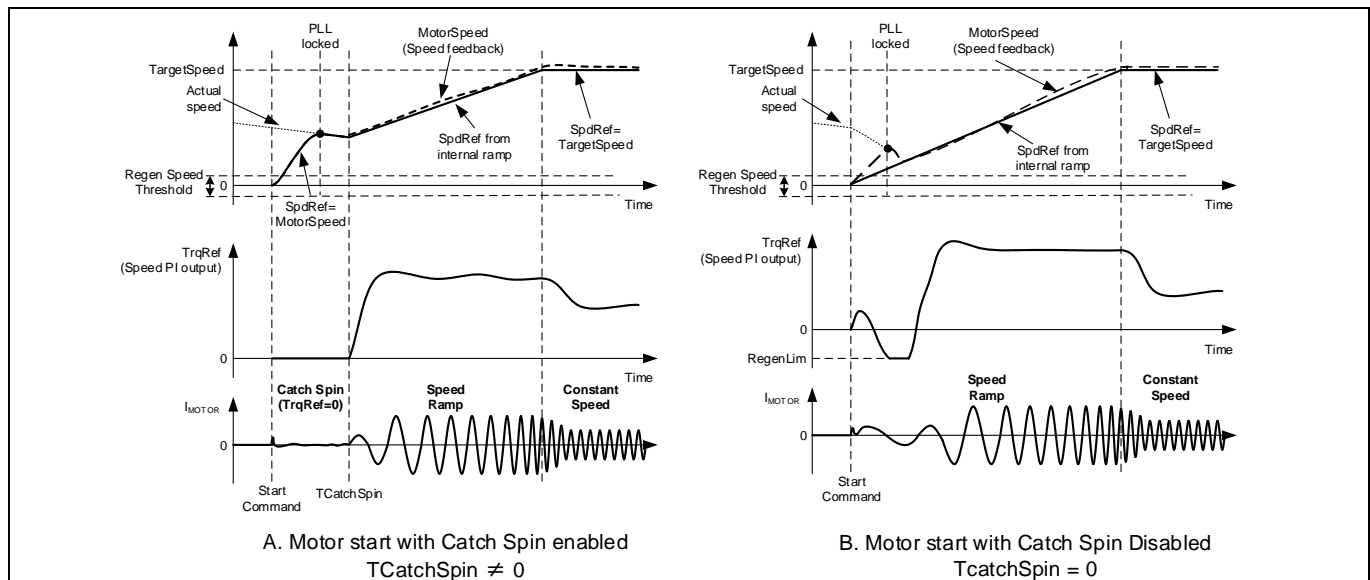

Figure 28 Forward Catch Spin - Motor start with/without catch spin
If the motor is spinning in the same direction as desired, then the catch spin sequence is termed as 'Forward Catch Spin'. Figure 28 (A) shows an example for 'Forward Catch Spin'. In this example, at the start command the motor is already spinning (in the desired direction). During the catch spin sequence, no motoring current is injected. After the catch spin time has elapsed, assuming the flux PLL locks to the actual motor speed, the motor speed at that instance becomes initial speed reference and starting point for speed ramp reference. The motor continues to accelerate or decelerate, following the speed ramp reference to reach the set target speed.
If catch spin is disabled, normal speed control starts immediately after the start command, without waiting for PLL to be locked. Usually the control would still be able to start a spinning motor, but motor speed may not increase/decrease seamlessly. As shown in Figure 28 (B), after the start command, the actual motor speed is higher than speed reference (variable 'SpdRef'). Hence, the motor is decelerated (using regenerative braking) to force the motor to follow the speed reference (variable 'SpdRef'). As the speed of the motor is higher than Regen Speed Threshold (variable 'RegenSpdThr'), the negative torque injected in the motor to achieve deceleration is limited by the value in RegenLim parameter. Once the motor speed matches the speed reference, the motor starts accelerating, following the speed ramp reference to reach the set target speed.